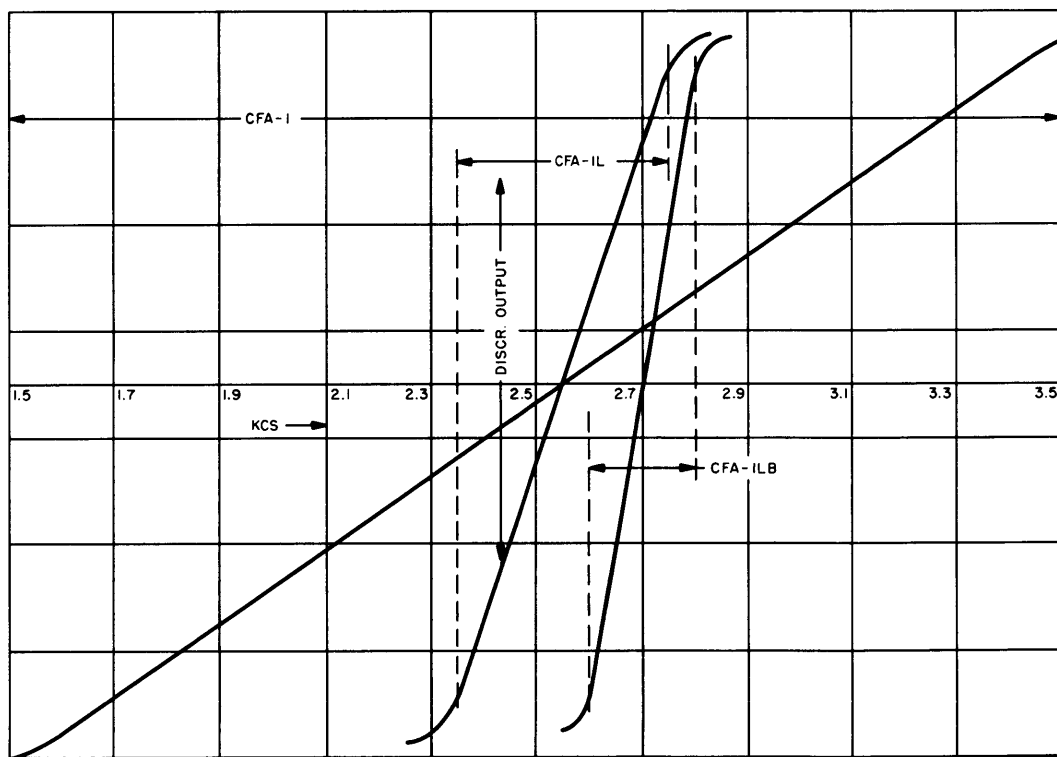

Figure 4-3. Model CFA Discriminator Curves
b. DISCRIMINATOR - The discriminator consists of two resonant circuits, one resonated above and the other resonated below center frequency in such a manner that maximum shift and drift conditions may be met without exceeding the distance between the resonant peaks. The voltage across each circuit is a function of the tone frequency. (See figure 4-3.)